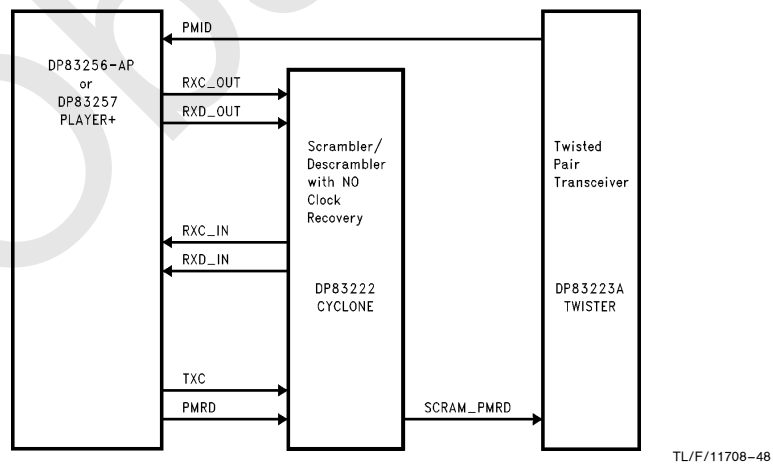

FIGURE 3-21. UTP PMD Connections
or clock generation function, such as a Fiber Optic or Shielded Twisted Pair (SDDI) PMDs. The second, Alternate PMD Interface can be used to support Unshielded Twisted Pair (UTP) PMDs that require external scrambling, and allows implementation with no external clock recovery or clock generation functions required. See *Figure 3-21*.
*Figure 3-21* shows how the DP83256-AP or DP83257 PLAYER+ device is connected to an Unshielded Twisted Pair (UTP) PMD using the Alternate PMD Interface.